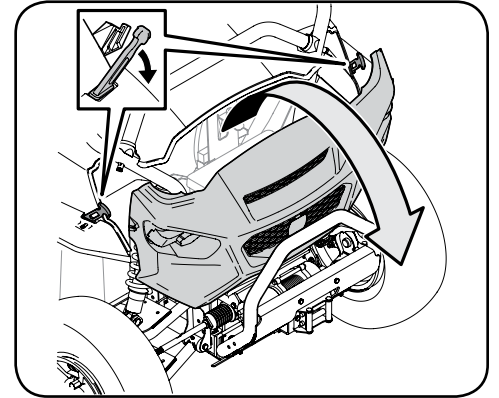

Figure 4-8
1. Unhook the hood latches and lower the hood. See Figure 4-8.